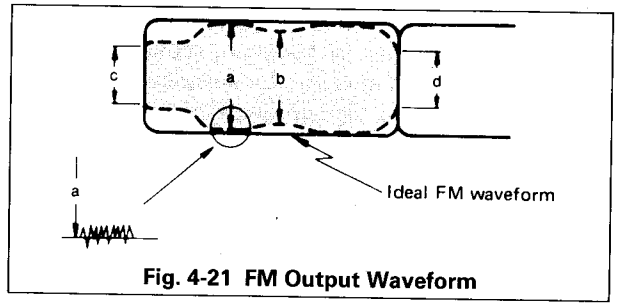

Fig. 4-21 FM Output Waveform
- D. Read the level at a part of the waveform corresponding to (a) in Fig. 4-21. If the waveform at (a) is saw-tooth read the level at as even a point as possible, as shown at the bottom-left of Fig. 4-21.